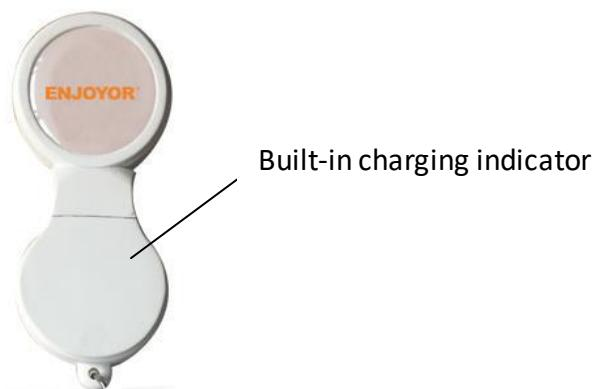

Figure 2, Physical Personnel Tag
1. This product is powered by a rechargeable lithium battery, and the charging interface uses TyP-C. The charging indicator lights up when connected to charging (Figure 2 indicator), and the charging duration is around 1 hour.